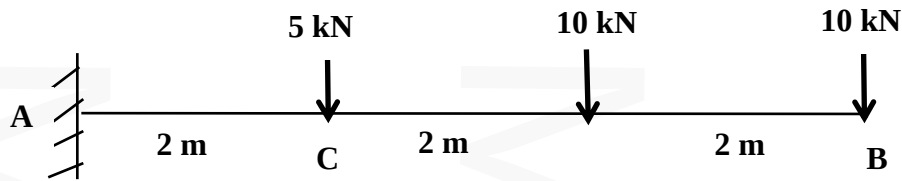

Fig.2
- 12 a) Determine the slope and Deflection at the free end and at point C for the beam shown in fig. 2 using moment area method. Take $I = 2 \times 10^8 \text{ mm}^4$ and $E = 2 \times 10^5 \text{ N/mm}^2$ 10